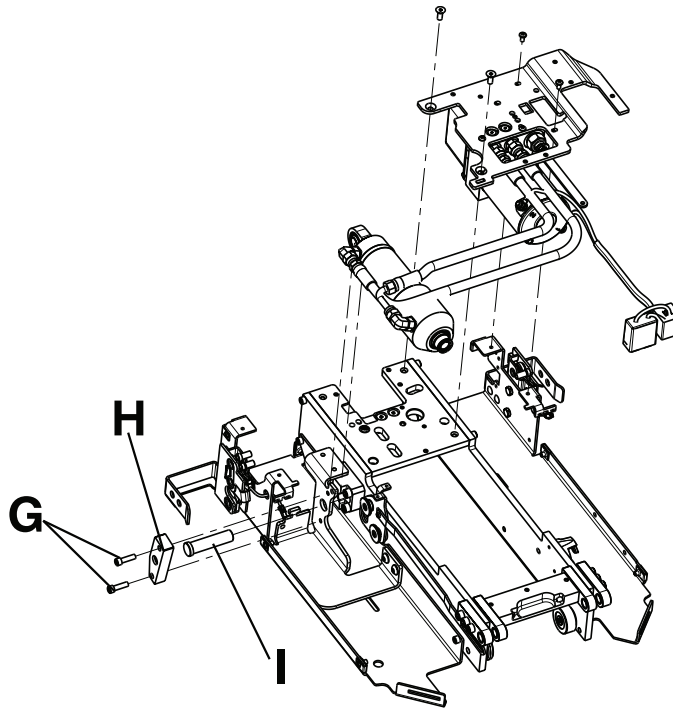

Figure 22 – Pin and hydraulic cylinder removal
11. Using a 3/16" hex wrench, remove the two screws (G) that secure the pin bracket (H) to the trolley (Figure 22). Save the screws.
12. Remove the pin (I) and lift the hydraulic cylinder out (Figure 22). Save the pin.